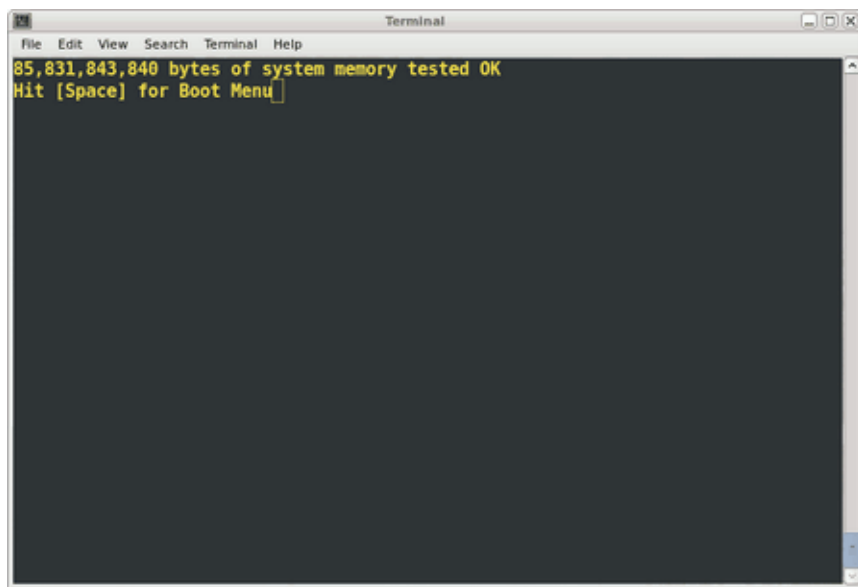

Figure 3-24 Console Prompt for Boot Menu Screen
2. When prompted on the console, hit the space bar for the **Boot Menu**, as shown in Figure 3-24 on page 65.